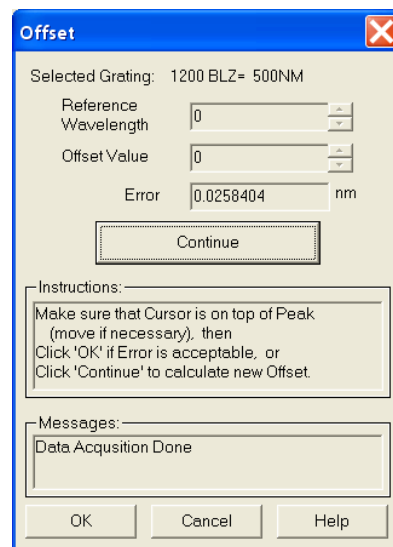

Figure 63. Offset dialog
2. In the **Spectrograph Calibration** dialog, click on the **Offset** button. This will open the **Offset** dialog (Figure 63).